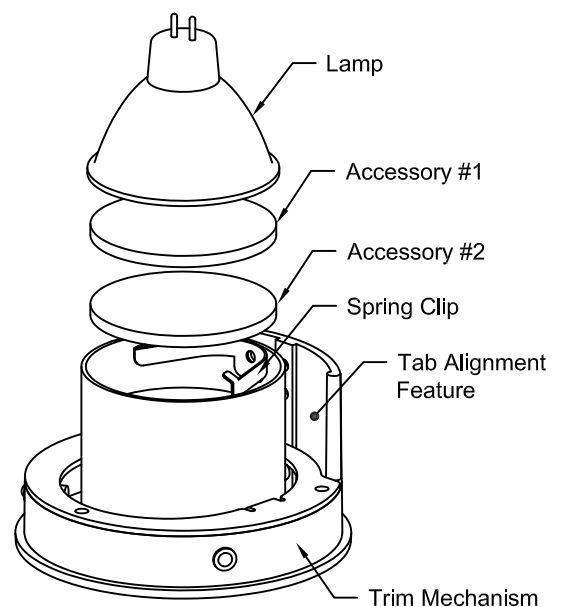
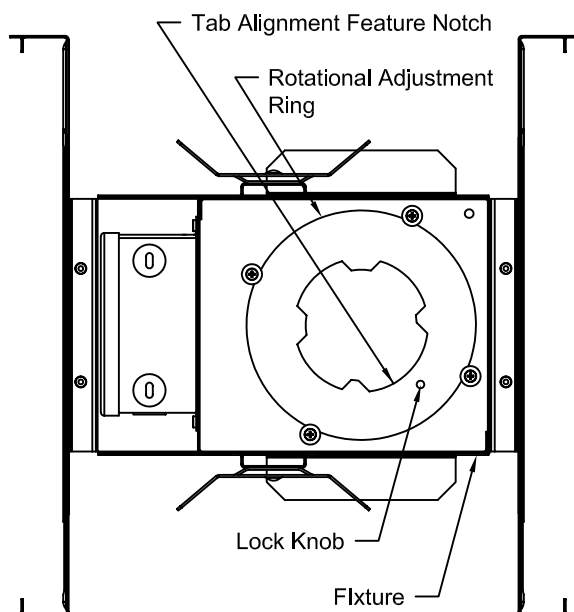

Figure 4
Figure 5
- \*Lamp Bracket accommodates up to two (2) accessories.
2. Slide out Lamp and/or Accessories from under Spring Clip to remove. See Fig. 4.
4. To ensure original light beam placement, align Tab Alignment Feature on Trim Mechanism (See Fig. 4) with Tab Alignment Feature on Rotational Adjustment Ring inside Fixture (See Fig. 5).
3. Tighten Lock Knob inside Fixture to lock Rotational Adjustment Ring. See Fig. 5.